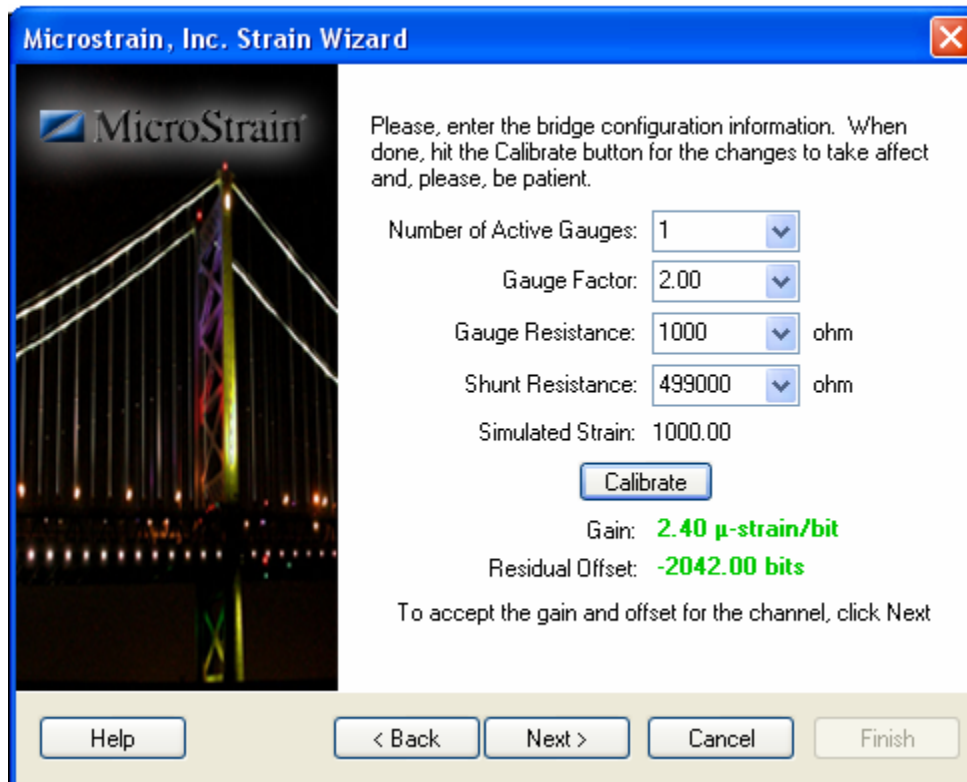

Figure 4
- Click Accept to move to the next view as exemplified in **Figure 4**.